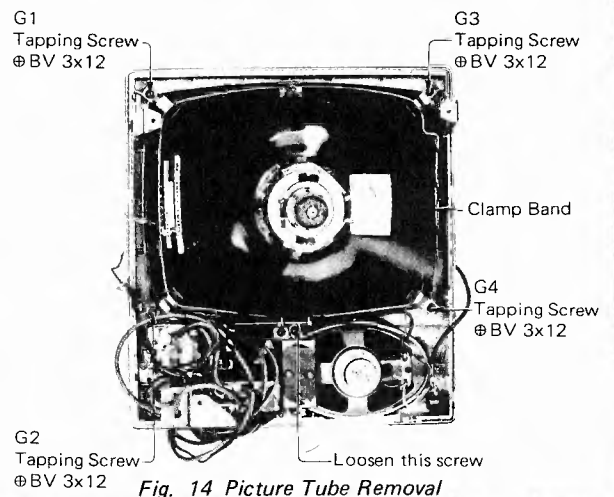

Fig. 14 Picture Tube Removal
4. Remove the four screws labeled G1-4 in Fig. 14.